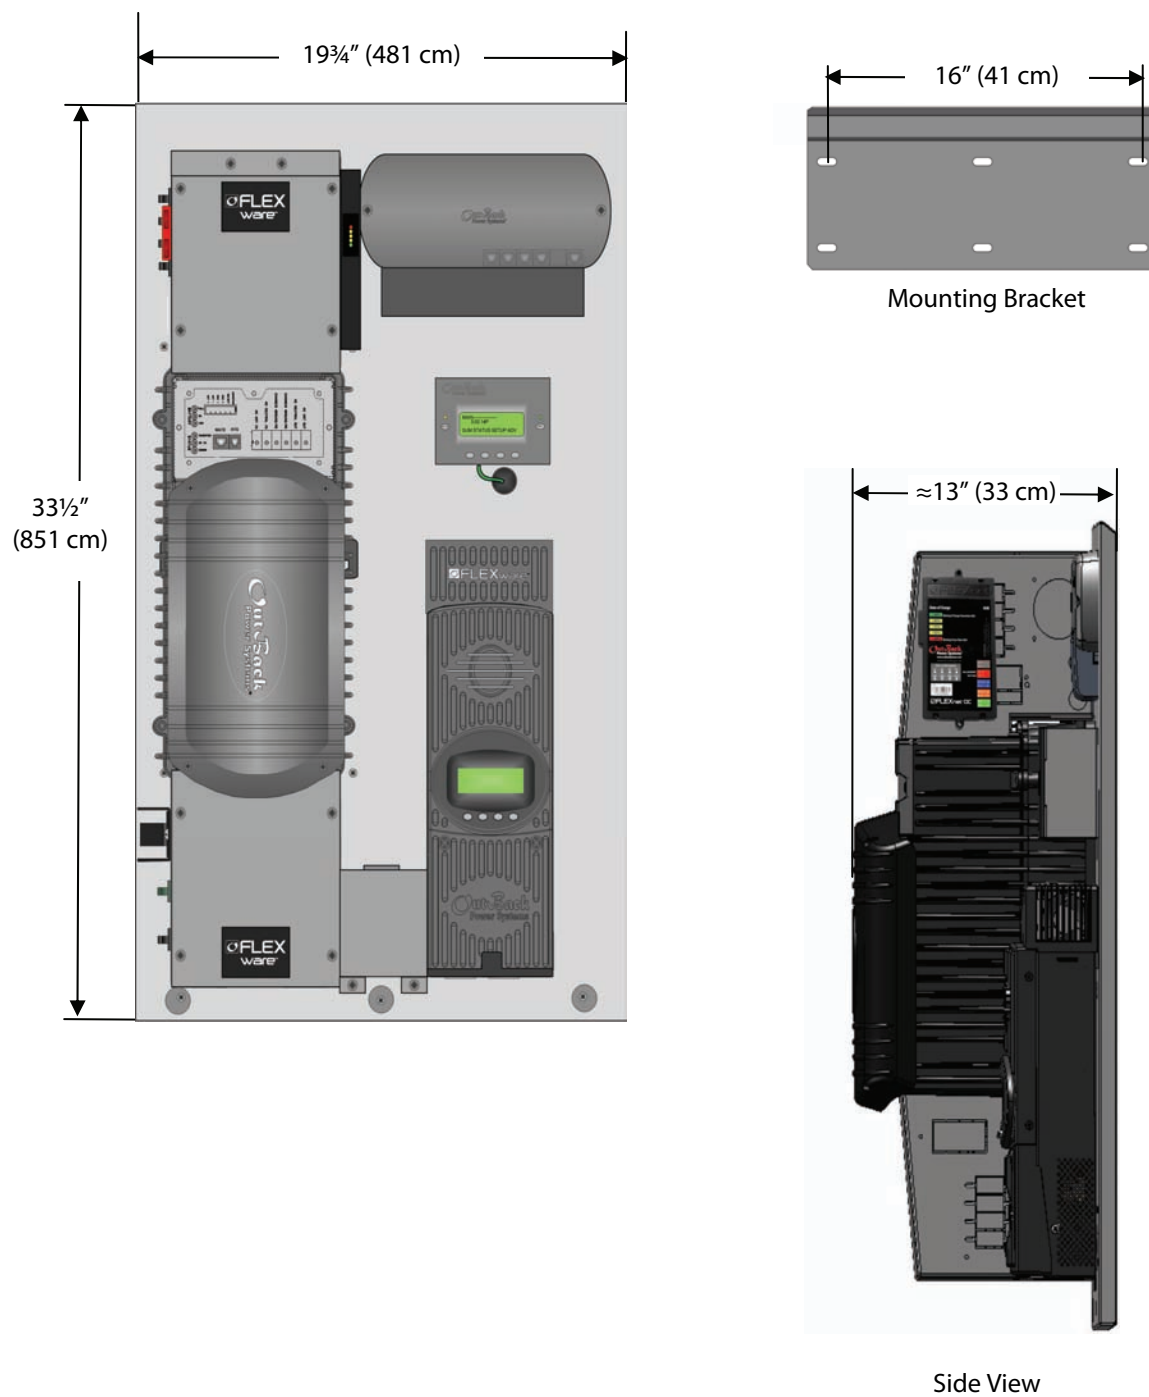

Figure 7 **Dimensions**
1. Note the height of the Mounting Plate as indicated in Figure 7.